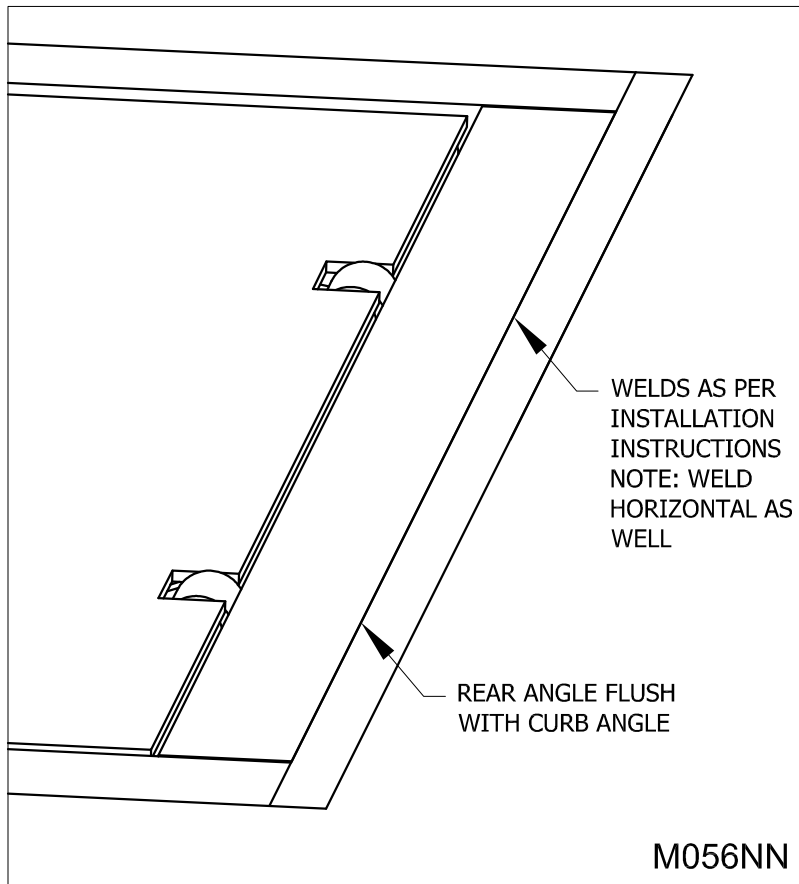

Figure 34: Rear Angle Flush with Curb Angle
5. ___ Rear angle of dock leveler in parked position showing flush and level to the floor/curb angle. (See "Figure 34: Rear Angle Flush with Curb Angle" on page 29)